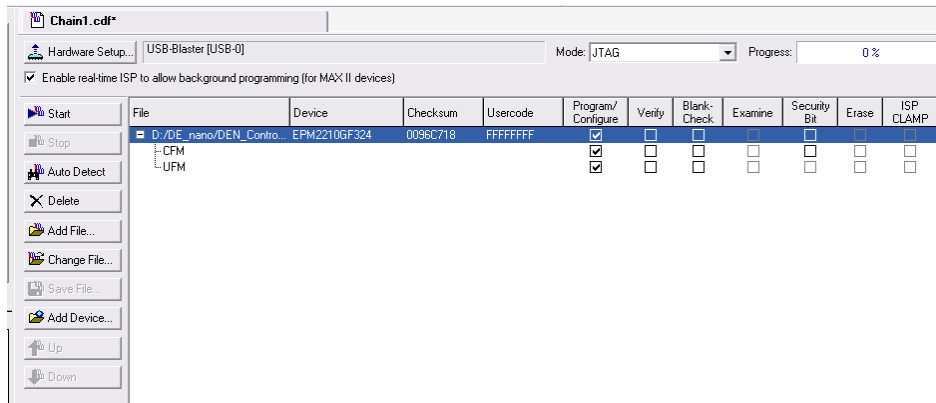

Figure 3.1. Quartus II Programmer window
4. Select **Tools > Programmer** to reach the window in Figure 3.1. Click on **Add File** and in the pop-up window that appears select the *DEN_Control_Panel.pof* file. Next, click on the three check boxes in the **Program/Configure** columns. Now, click **Start** to download the configuration file into the CPLD.